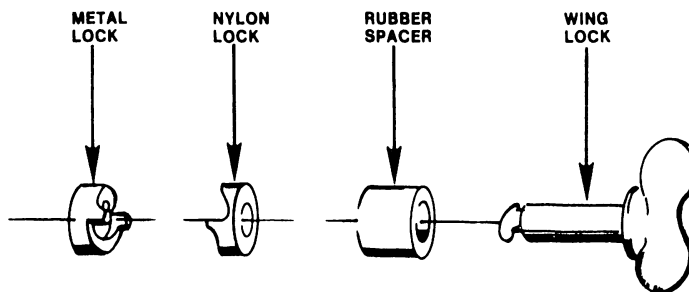

FIGURE 7
- e. Remove the metal lock, nylon lock, and rubber spacer from the wing-lock shaft. (Figure 7.)